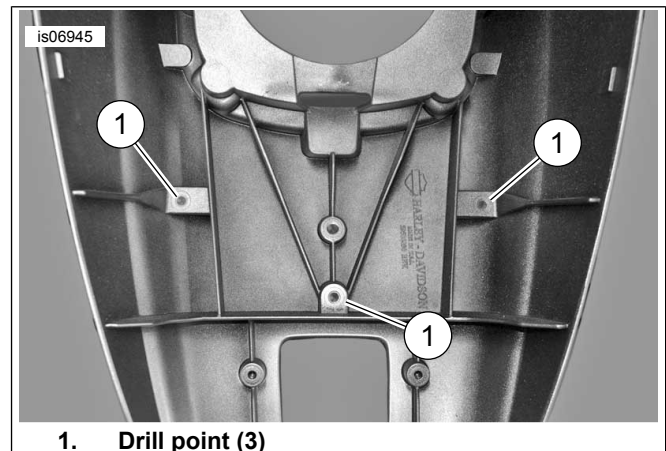

Figure 2. Outer Fender Drill Points
4. See Figure 2. Turn the fender cover over and place it on a clean, soft cloth on a bench.